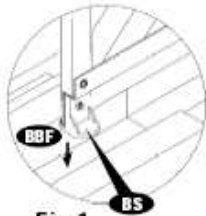
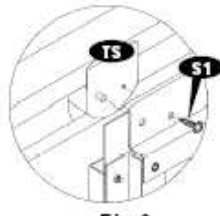

Fig.1
Fig.2
11. Assemble the bottom slider (BS) to the door panel bottom side at both edge with (S3) bolt and nut with washers.
12. Fix the door handle (DH) with door panel from front side with (S3) bolt and nut.
13. Slide the door panel assembly into the base bar front (BBF) & (ECB). Make sure the bottom slider (BS) should slide inside the base bar front and entrance taper channel. See fig.1. Fix the door panel top to the top slider (TS) with (S1) screws. See fig. 2 & 3.